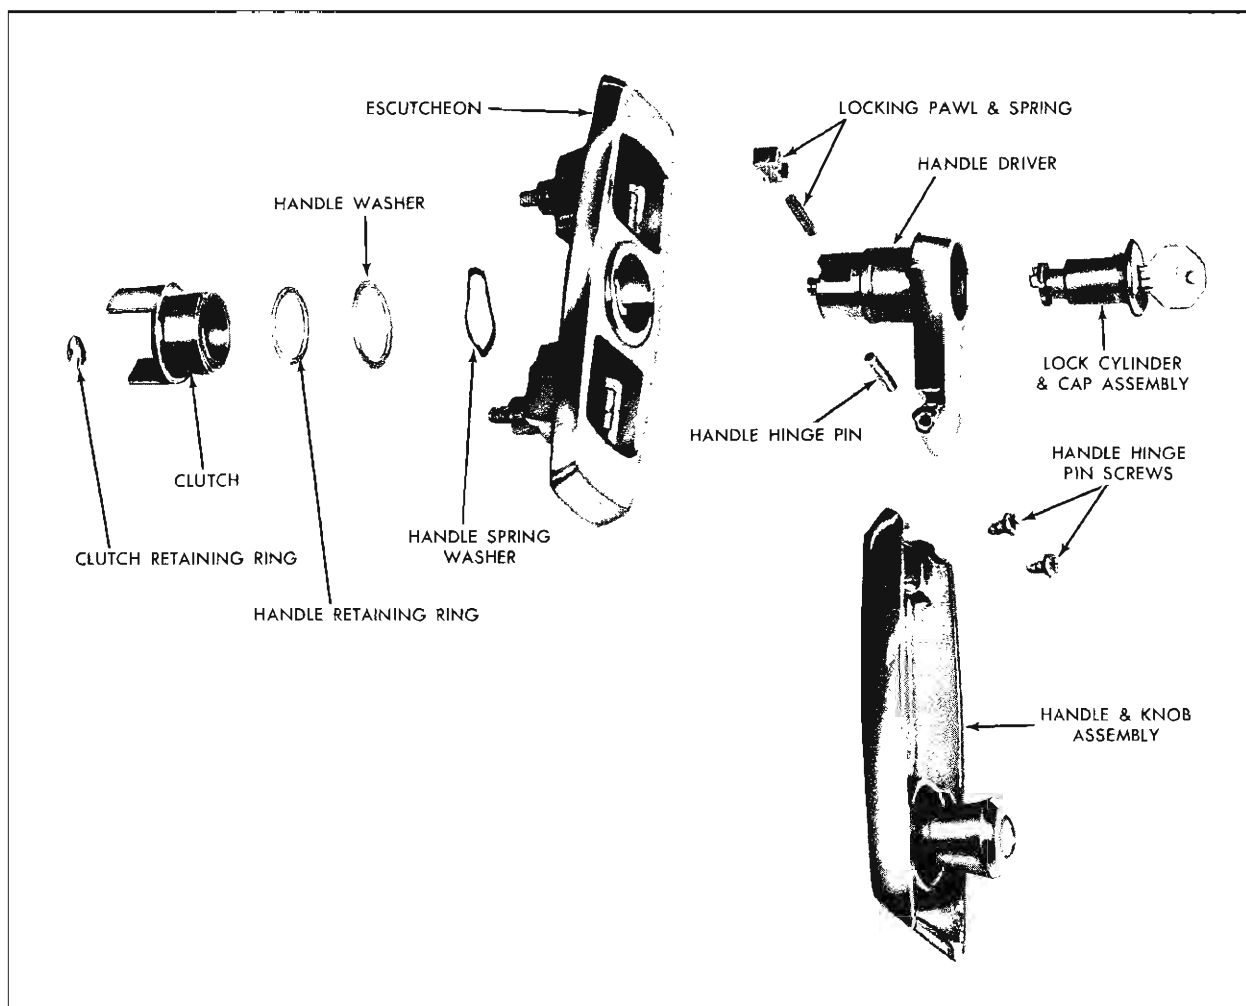

Fig. 5-14 Tail Gate Outside Handle Assembly
2. Remove clutch retaining ring and slide clutch off shaft of handle driver (see Fig. 5-14).
3. Using a snap ring removal tool, remove retaining ring securing handle assembly (see Fig. 5-14), remove washer and spring washer from shaft of handle driver and remove handle assembly from escutcheon.
4. To remove handle and knob assembly, remove handle hinge pin screws (see Fig. 5-14) and remove handle and knob assembly from handle driver.
3. Insert key in lock cylinder and turn key to lock position. Depress locking pawl (see Fig. 5-14), turn key (lock cylinder) approximately  $\frac{1}{4}$  turn counter-clockwise and remove lock cylinder assembly, locking pawl and locking pawl spring from handle driver.